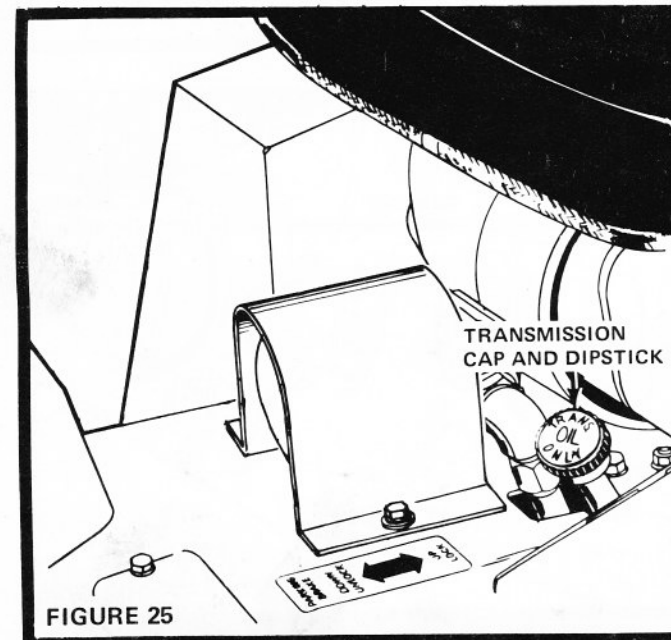

FIGURE 25
- Unscrew Cap and Dipstick (Fig. 25) remove and wipe clean.